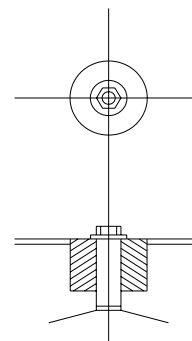

Fig. 10
3. REPLACING THE FAN BLADE (fig. 10)